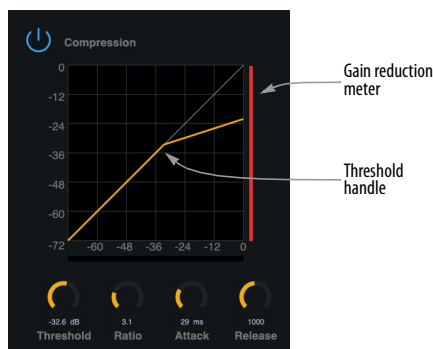

Figure 6-2: The Compressor.
All analog input channels (items 1 and 2 on page 48) provide a *Compressor* (Figure 6-2).
The *Compressor* lowers the level of the input when amplitude of the signal is above the Threshold. The amount of attenuation is determined by the *Ratio* and the input level. For example, if the input is 6 dB above the *Threshold* and the Ratio is 3:1, the compressor will attenuate the signal to 2 dB above the Threshold. When the input level goes above the threshold, the attenuation is added gradually to reduce distortion. The rate at which the attenuation is added is determined by the *Attack* parameter. Likewise, when the input level falls below the Threshold, the attenuation is removed gradually. The rate at which the attenuation is removed is determined by the *Release* parameter. Long Release times may cause the audio to drop out briefly when a soft passage follows a loud passage. Short Release times may cause the attenuation to “pump”, a term used to describe the sound of the compressor when the average input level quickly fluctuates above and below the Threshold. These issues can be addressed by adjusting the parameters. The *Gain reduction meter* (Figure 6-2) displays the attenuation applied by the compressor.